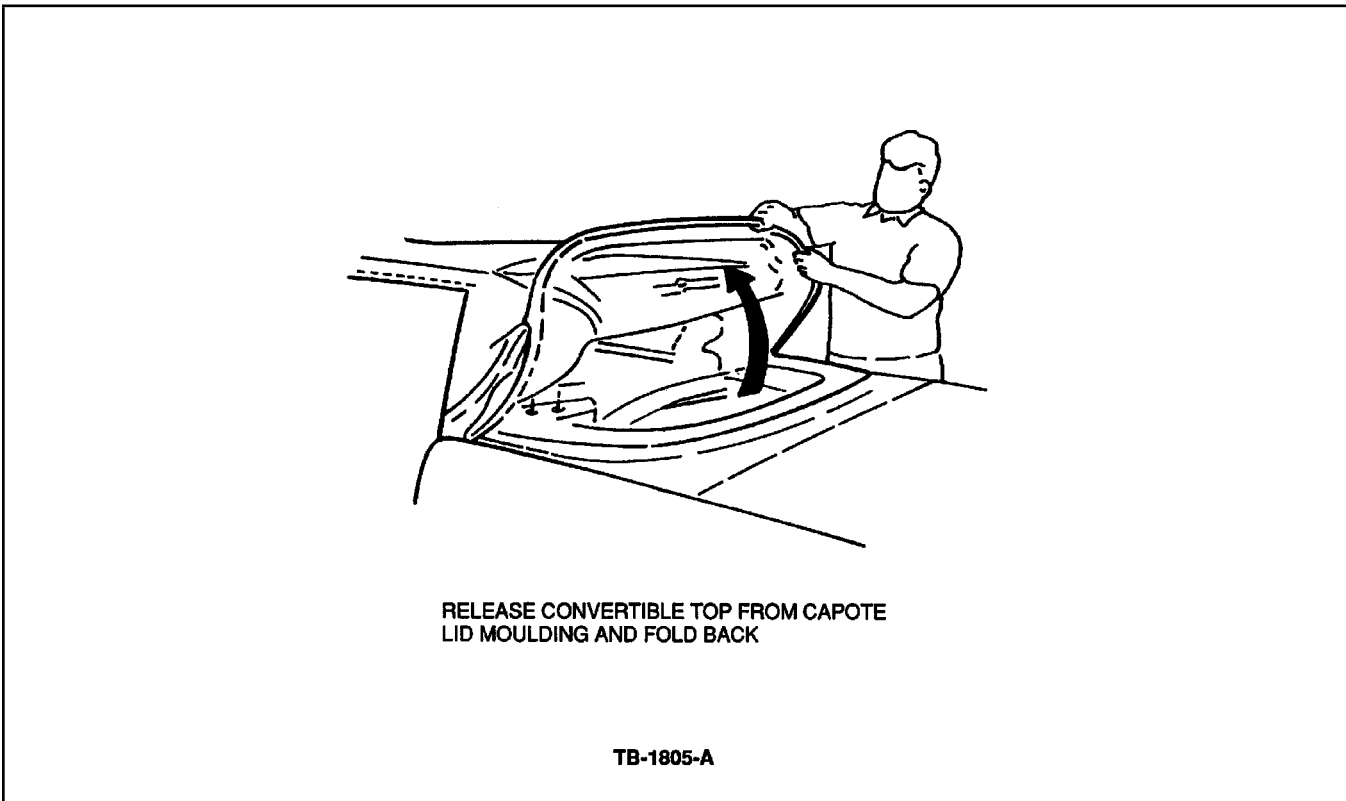

Figure 4 - Article 90-21-3
2. Raise the convertible top. With the rear retainer disengaged from the stowage compartment lid, latch the convertible top to the header, Figure 4.